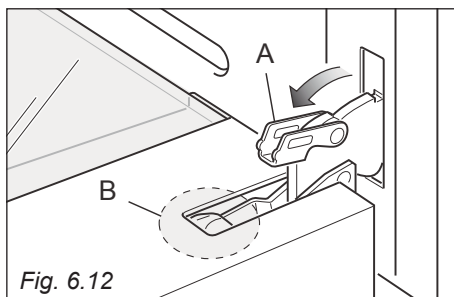

Fig. 6.12
- Open the lever "A" completely on the left and right hinges (fig. 6.12).
- Gently close the door until left and right hinge levers "A" are hooked to part "B" of the door (figs. 6.12, 6.13).